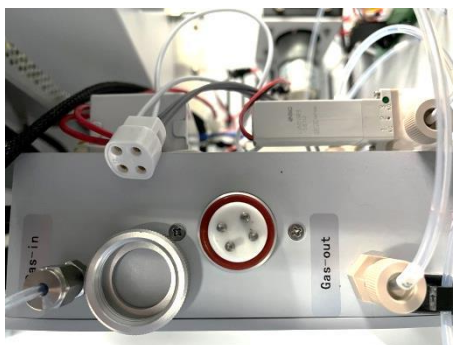

Fig.6.61
3) Unscrew the fixing nut of the UV lamp counterclockwise (Fig. 6.61) to remove the UV lamp.